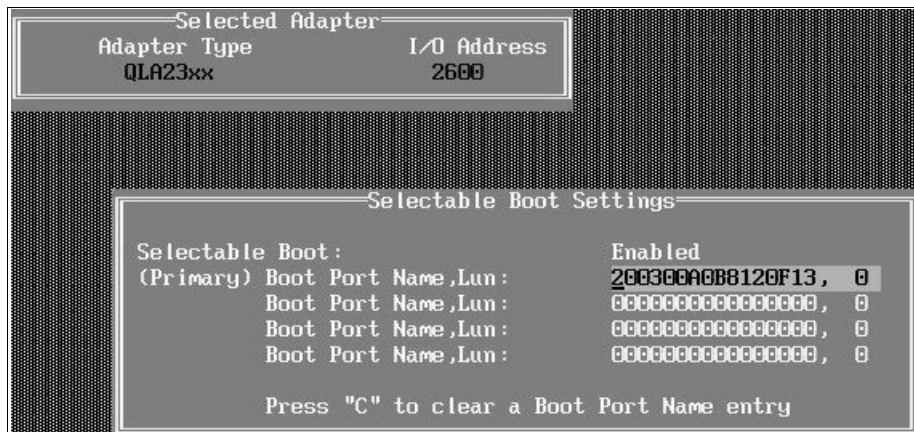

Figure A-3 Selectable boot Settings
- From the Configurable Boot Settings panel, set the boot device to the controller's World Wide Port Name, as shown in Figure A-3 and reboot the server.